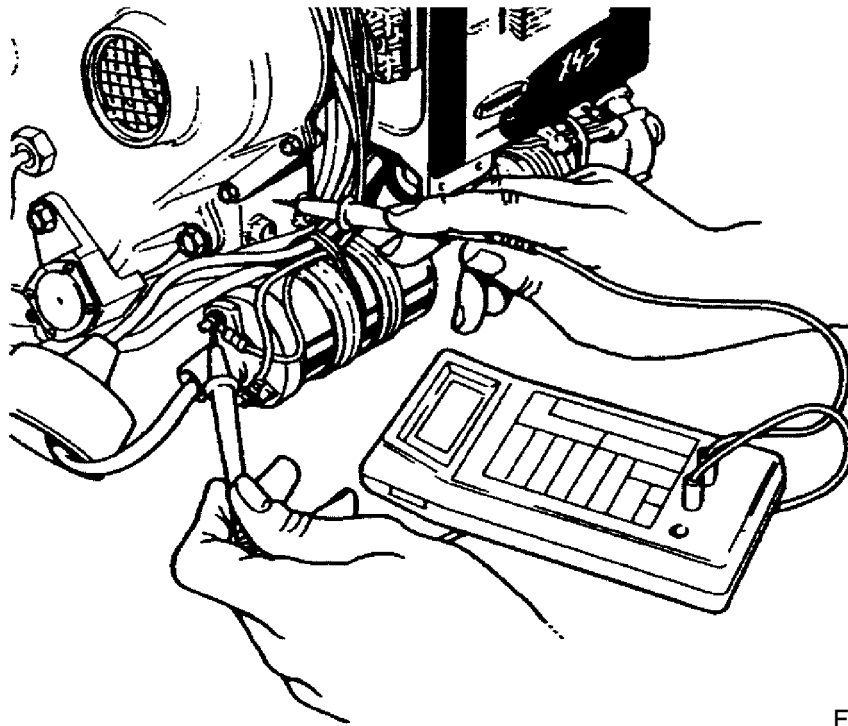

Figure 7.17–15
- Select the DC Volts range of a multimeter and connect as shown in figure 7.17–15. The positive lead of the multimeter should be attached to the positive coil lead. The negative lead of the multimeter should be attached to the heater chassis at the heater ground boss (see figure 7.17–30).